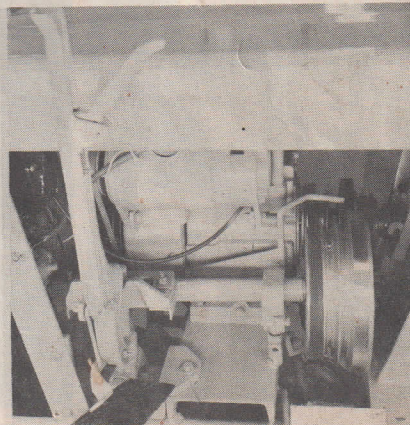

Fig. 3 Drive Control
- 10. Close the hood, put on the parking brake, and put the glidamatic control in neutral position, as shown in Figure 3.